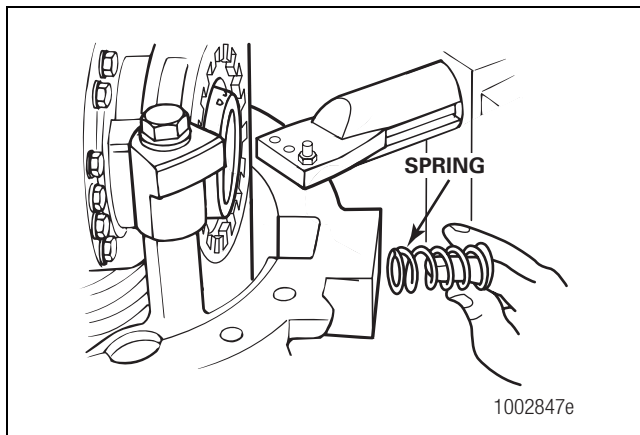

Figure 13
2. Install the spring into the housing. Figure 13.